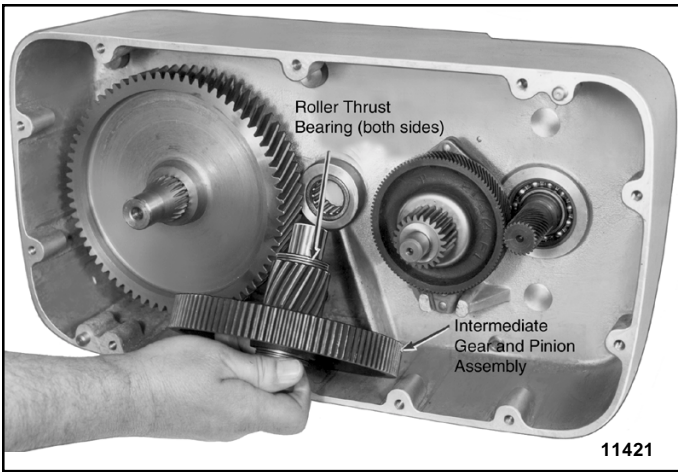
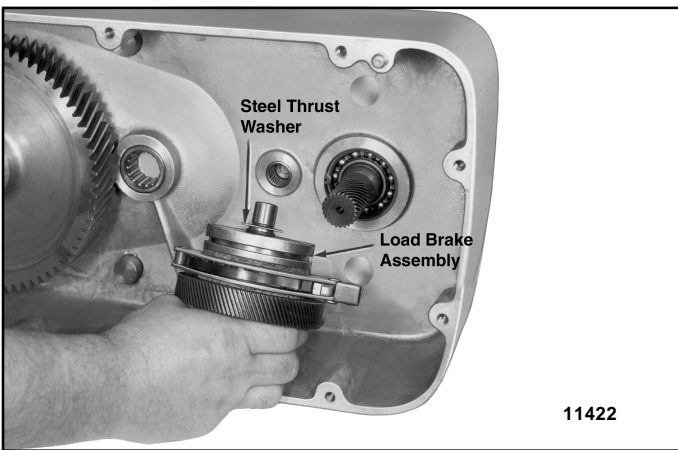

Figure 5-4. Removing Intermediate Gear and Pinion Assembly
Figure 5-5. Removed Load Brake Assembly
- b. To inspect gearing, pull out intermediate gear and pinion assembly and roller thrust bearings (Figure 5-4), and load brake assembly (Figure 5-5). Do not remove drum gear unless visual inspection indicates replacement is necessary.
h. Install gearing and load brake assembly in gearcase in reverse order of disassembly. Be certain roller thrust bearings are installed at both ends of intermediate gear shaft as shown in Figure 5-4 and that thrust washers are properly installed at both ends of load brake shaft as noted below:
- (1) A steel thrust washer with 5/8" I.D. must be installed on the brake flange end (end opposite pinion) of load brake as shown in Figure 5-5.
- (2) A bronze thrust washer with a lug on one side goes on pinion end of load brake shaft and it must be installed so that its lug engages the special slot located on the spot face surrounding the load brake bearing bore inside gearcase cover. Use heavy grease to hold it in place on cover as cover is installed.